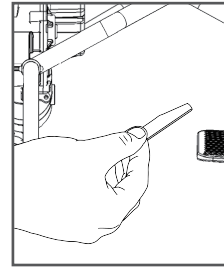

Figure 20
► Folding steps: (see Figures 20, 21 and 22)